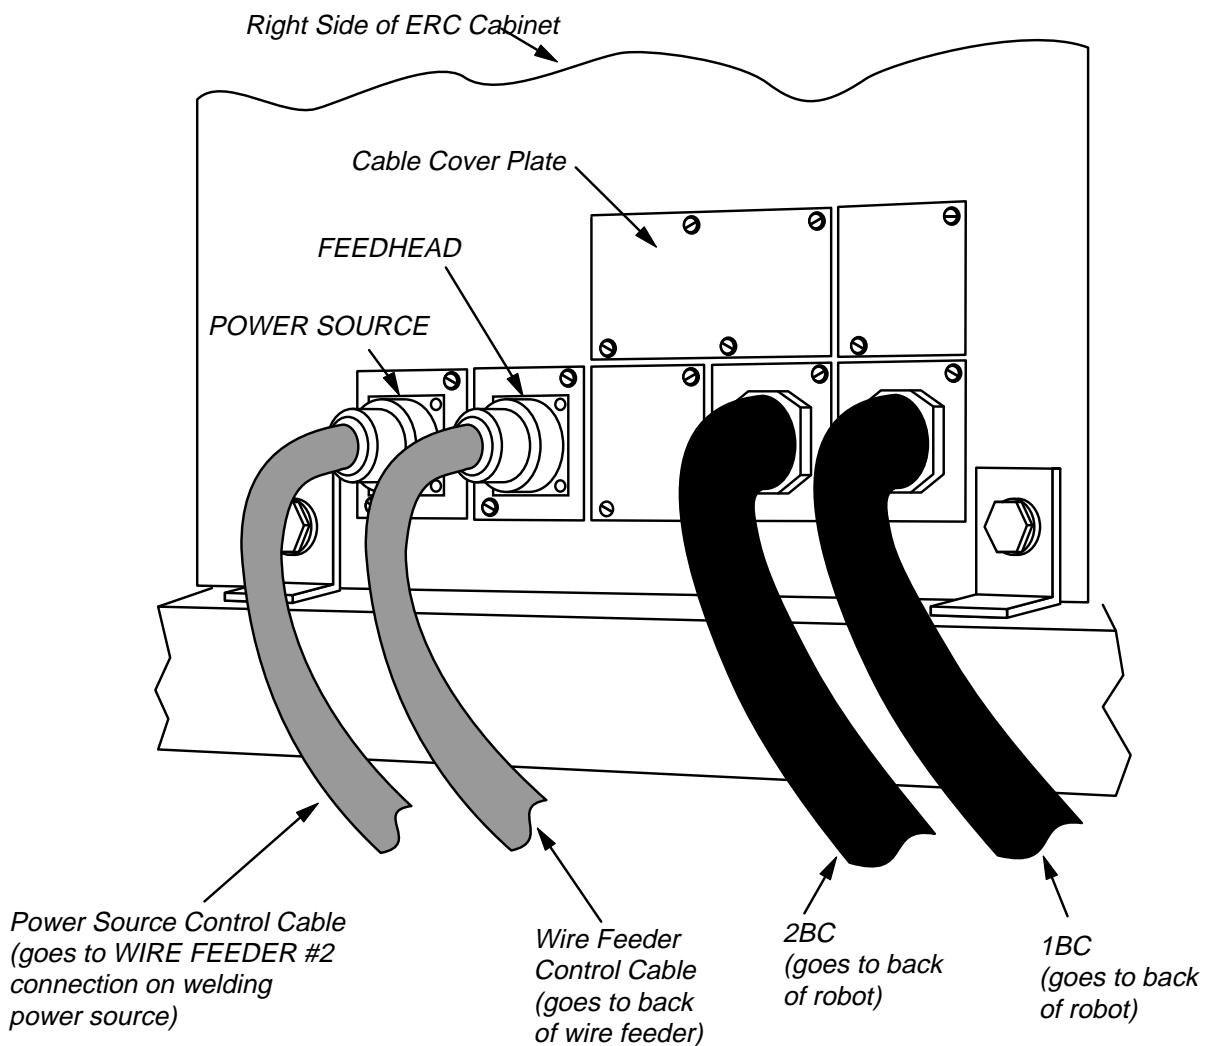

Figure 4-5 Power Source Control Cable, Wire Feeder Control Cable, and 1BC and 2BC Cable Connections on ERC
1. Connect the wire feeder control cable to the FEEDHEAD connection on the side of the ERC (see Figure 4-5).
3. Connect the power source control cable to the ERC connection (see Figure 4-5).